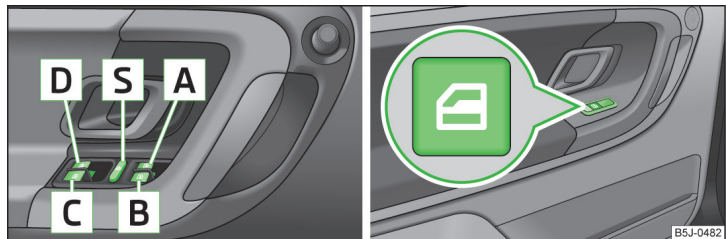

Fig. 38 Buttons on the driver's door/in the rear doors
- Deactivating the electrically operated power windows in the rear doors is recommended (safety push button) [S] when children are being transported in the rear seats » Fig. 38 on page 56.
- After switching the ignition off, it is still possible to open or close the windows for approx. 10 minutes. After the driver's or front passenger's door has been opened, the windows can only be operated by using button [A] » Fig. 38 on page 56.
Power window buttons » Fig. 38
The buttons for power windows in the rear doors can be deactivated by pressing the safety switch  » Fig. 38. The buttons for the electrical power windows in rear doors are activated again by pressing the safety pushbutton  again.
- Hold button  » Fig. 38 on page 56 in the opening position.
- Hold button  » Fig. 38 on page 56 in the closing position.